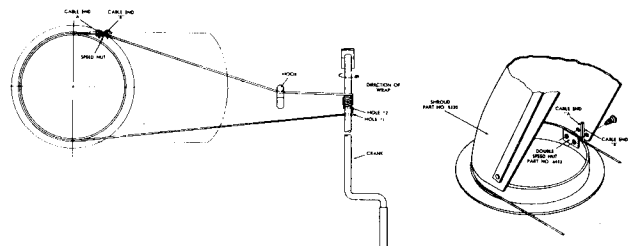

FIGURE 7
3. Pull cable around the shroud and thread end "B" of cable through hole #1 then back through hole #2 in crank and then wrap seven (7) complete turns in direction shown in figure 7. Finish last turn on top of crank. Pull cable end "B" behind the hook on the wrapper assembly and thread up under the double speed nut. Retighten screws just enough to retain cable.